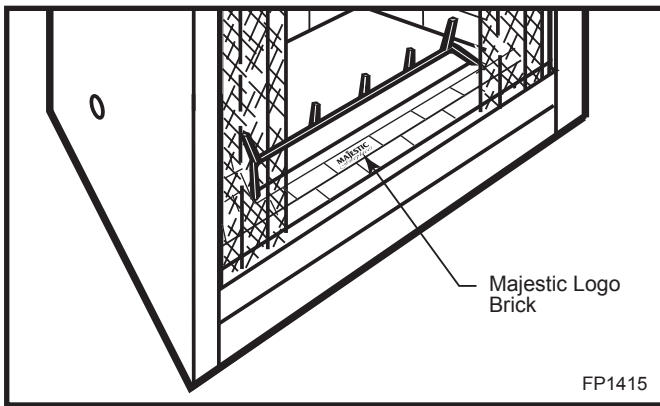

Fig. 6 Lift brick with logo on it to access valve.
2. Lift the brick with the Majestic logo on it. (Fig. 6)